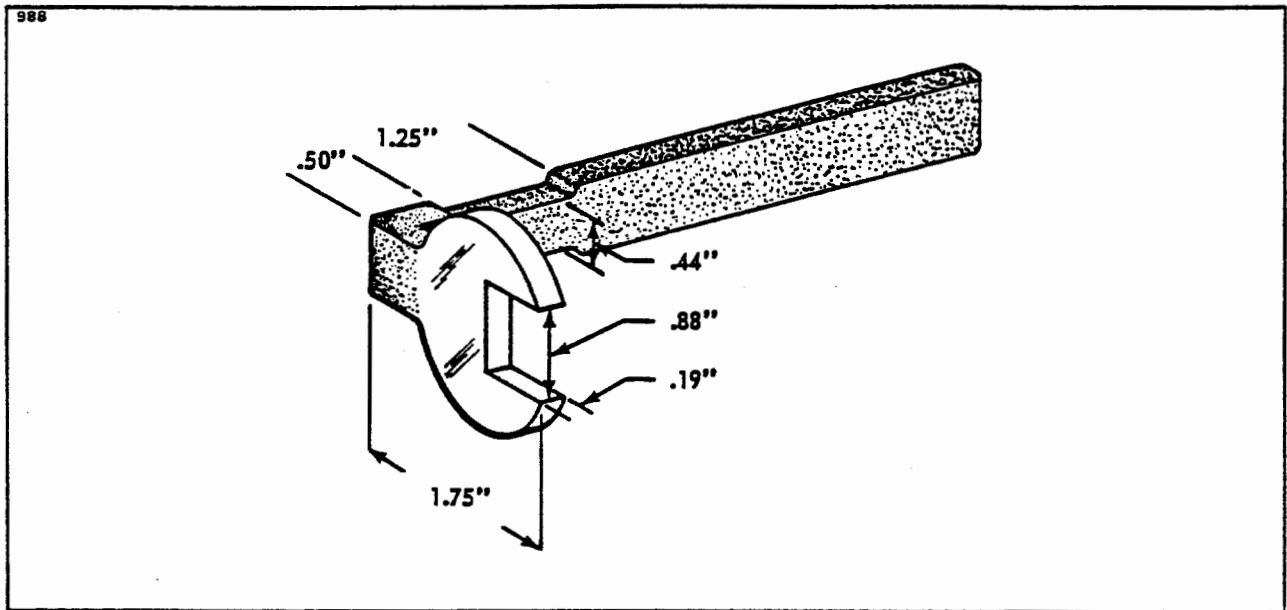

Figure 4-7. Fabricated Tool for Baggage Door Lock
- a. With the door open remove the nut from the back of the lock assembly by use of a special made wrench. (This tool may be fabricated from the dimensions given in Figure 4-7.)